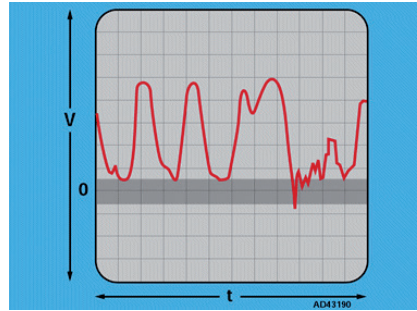

Fig 27 - Oxygen sensor (O2S) wave form
- Compare scope trace with wave form reference *Fig 27*.